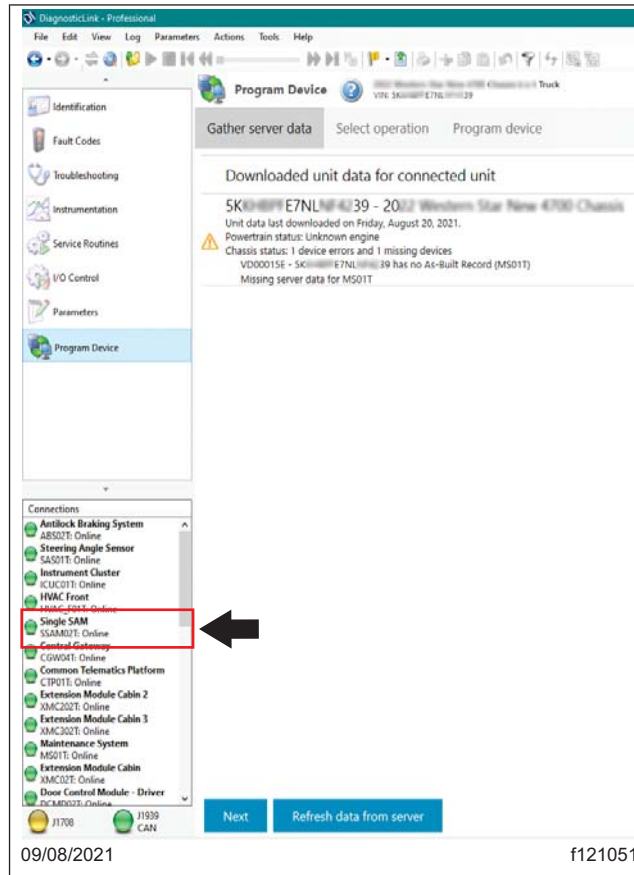

Fig. 2, sSAM Connected
5. Connect the vehicle to DiagnosticLink. Ensure the sSAM rollcalls, and is visible in the 'Connections' window. See Fig. 2.